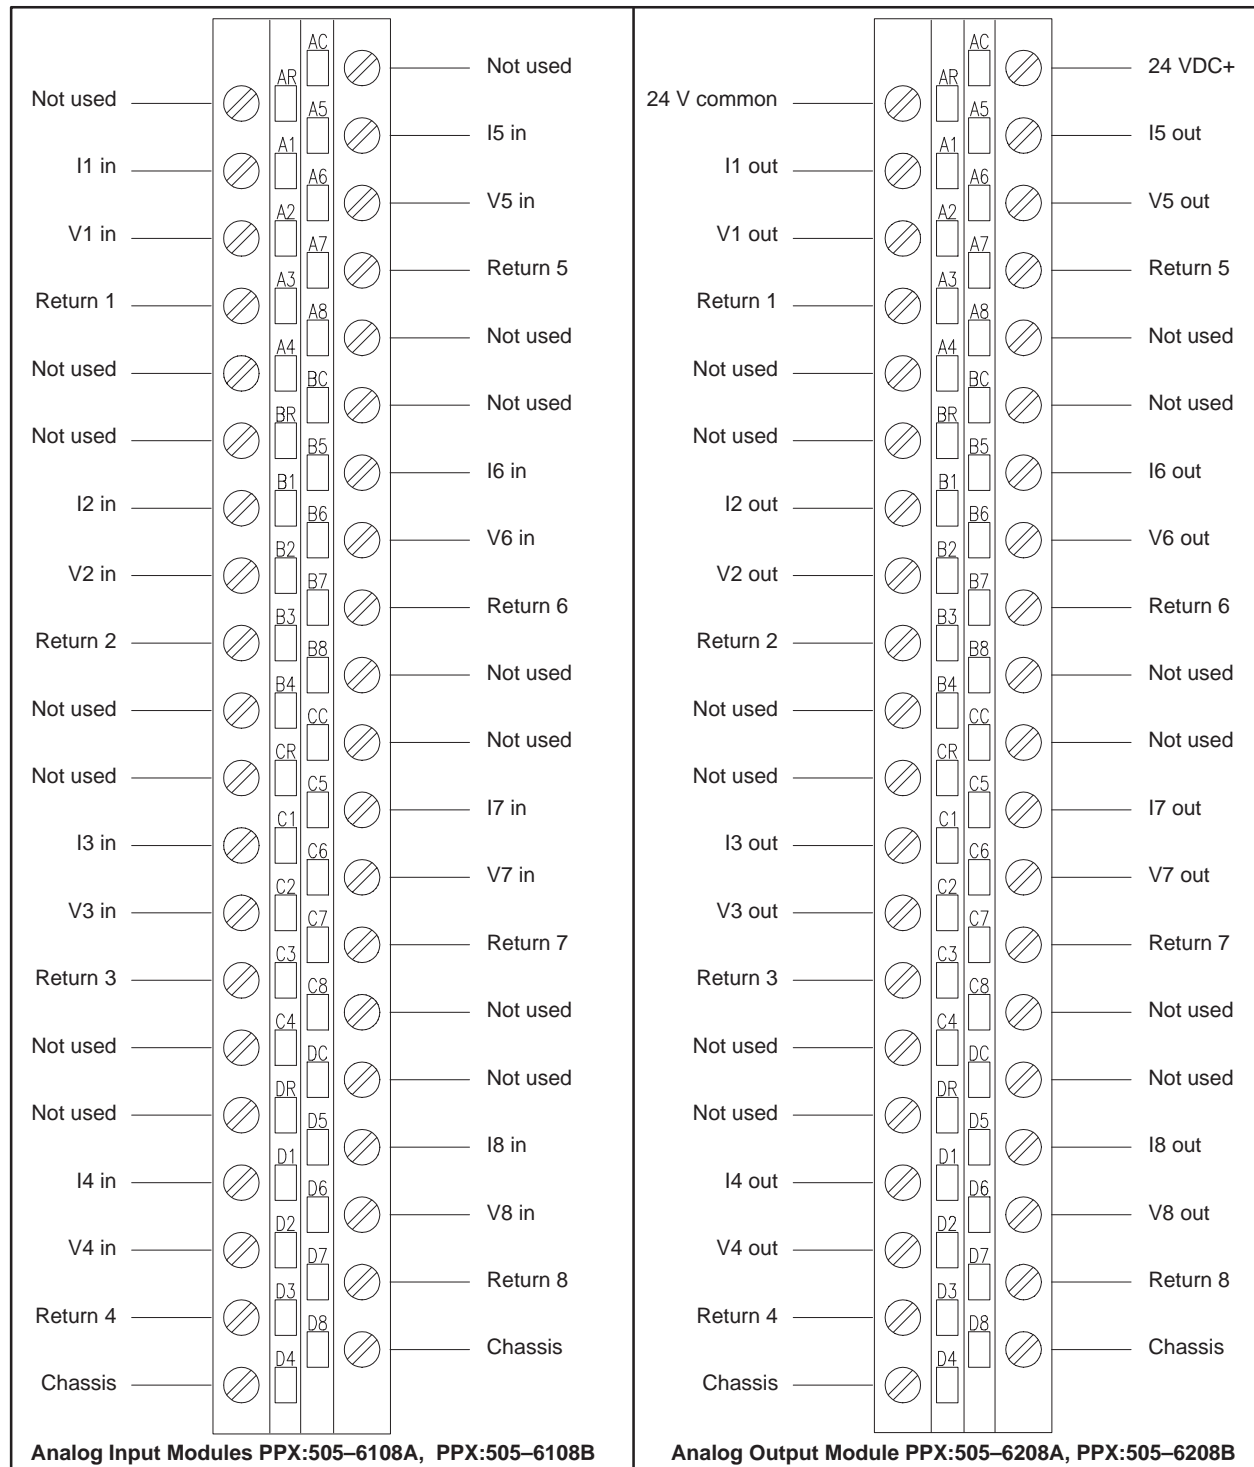

Figure 2-4 Pinouts for PPX:505-6108A, PPX:505-6108B, PPX:505-6208A, and PPX:505-6208B
2. Using the appropriate pinout as a wiring guide (Figure 2-4), start with the D terminals and loosen the terminal block screws.